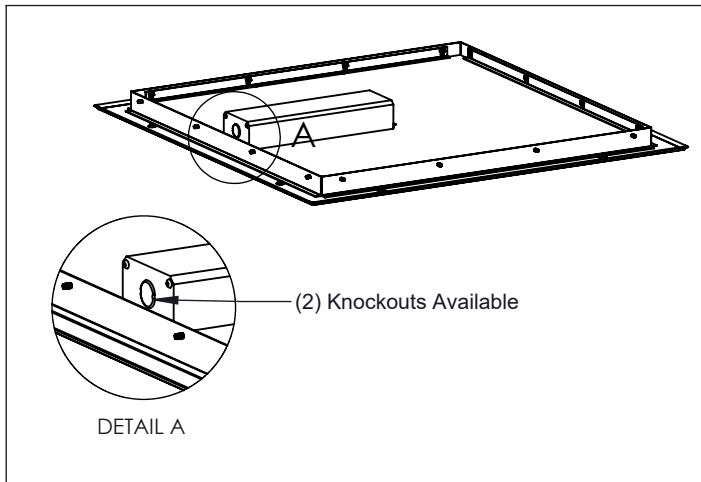

Figure 1
1. Make necessary electrical connections via K.O.s provided. (Fig. 1)